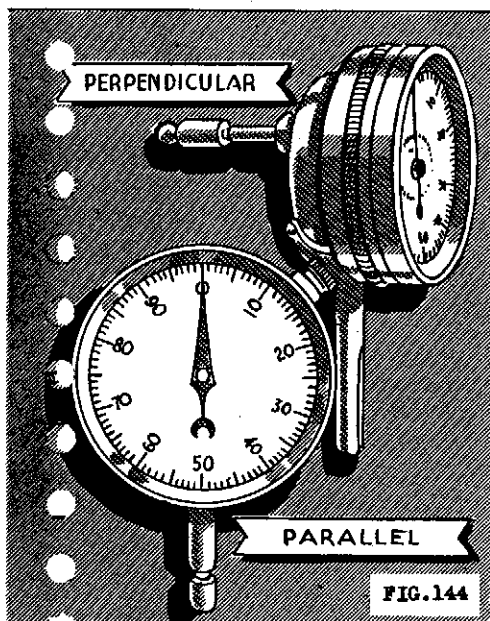

FIG.144
9. Select an indicator with the contact shaft perpendicular with the dial (Fig. 144). The dial faces upward and can be conveniently read from the operating position.